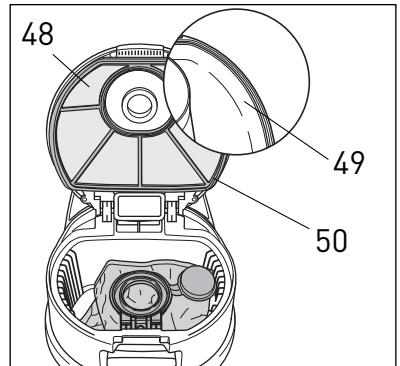
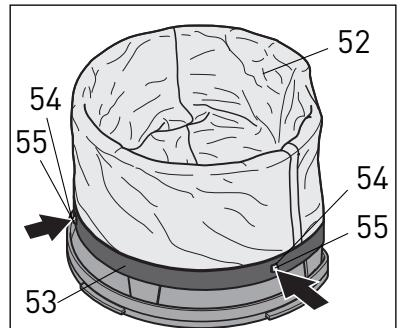
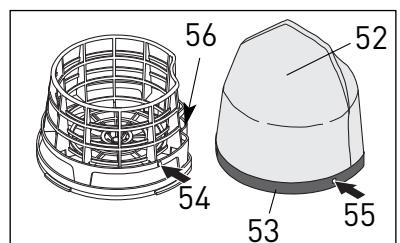
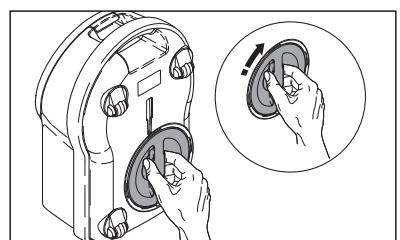

Figure 27
Figure 29
Figure 30
Figure 31
The pre-motor filter (#48) needs to be changed when it becomes extremely dirty or clogged. To remove the pre-motor filter, switch off the power and unplug the vacuum. Lift the cover release catch (#15, figure 26) and raise the filter bag cover (#18). Pull the filter (#48) out by grasping the rubber rim (#50, figure 27) of the filter and pulling it out of the groove (#49, inset, figure 29) that holds it. Fit the new filter into the groove and push the rubber rim snugly into the groove **all the way around the filter edge**. Do not leave any loose edges. Close the filter bag cover making sure that the cover release catch snaps back into place.
After 10 to 20 bags have been used, change the exhaust microfilter (52). To remove the microfilter, switch off the power and unplug the vacuum. Press the release button (51) located on the filter holder (27) as shown in figure 28. While holding the button in, rotate the holder counter-clockwise and pull it out. Remove the filter (52) from the filter holder (27) by pulling the rubber strip (#53, figure 29) away from the notches (54) that hold it onto the base of the filter holder then pulling the filter off. Fit the new filter down over the holder, lining up the notches (54) on the holder with the holes (55) in the red rubber strip. The two tabs located on the indented portion of the red filter rim hook onto the holder rim (see position #56, figure 30). Tuck the peak of the filter down as shown in figure 29. Insert the assembly back into the machine and turn the holder cover clockwise (figure 31). It is not necessary to press the release button to close the filter holder.